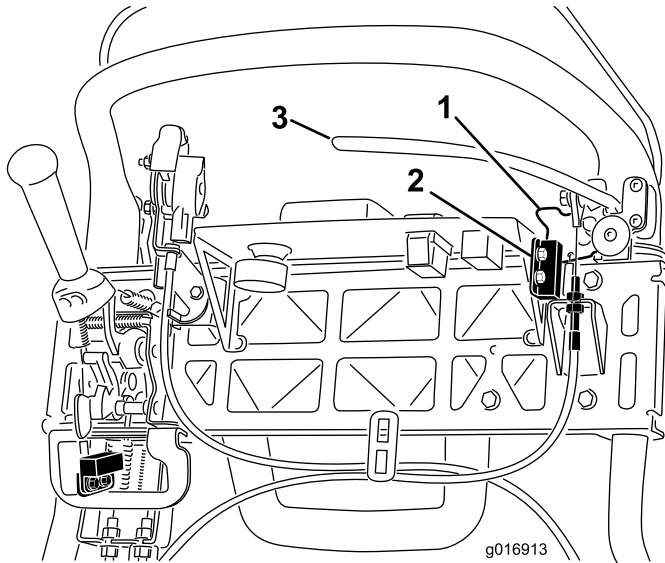

Figure 39
4. Loosen the interlock switch mounting fasteners (Figure 39).
5. Place a 0.062 inch (1.6 mm) thick shim between the parking brake latch and the interlock switch (Figure 39).